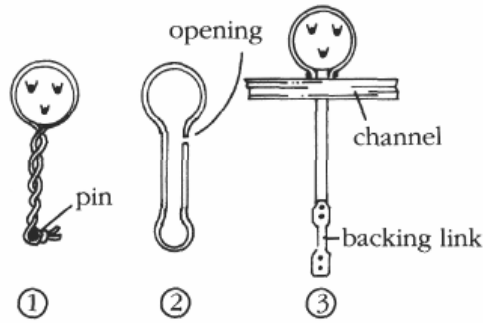

FIGURE 28. *Different types of chainplates, not all of them useful.*
Some chainplates can be made by wrapping a wire around the deadeye as you would a block and twisting the wire until the proper length is obtained (Figure 28). Then you cut off one end of the wire and wrap the other around the pin (1). With other kits, you make the chainplates from preshaped wires. Be aware that with this type of chainplate, the ends